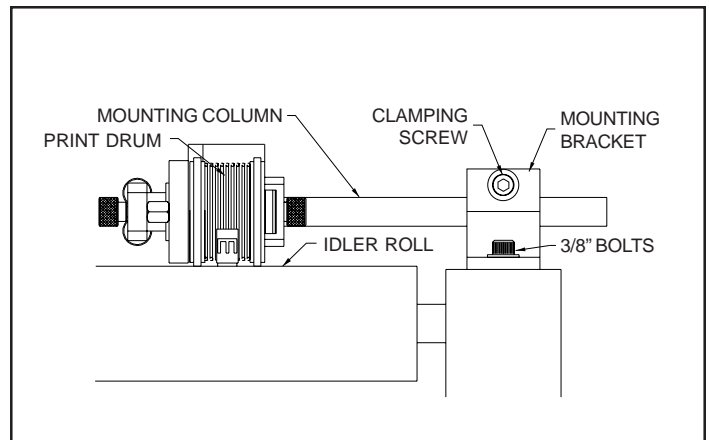

FIGURE 28
**1 - After determining the best location to mount the coder, install the supplied mounting bracket (Figure 28) on a rigid surface using two 3/8" diameter bolts, nuts, washers and lock washers (not supplied). Be sure that mounting column of the coder is parallel to the idler roll.**